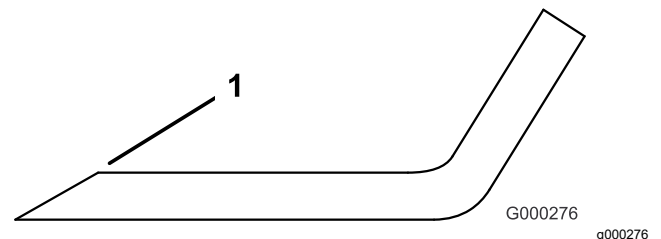

Figure 125
3. Examine the cutting edges of all of the blades and sharpen the cutting edges if they are dull or nicked (Figure 125).
Note: Sharpen only the top of the cutting edge and maintain the original cutting angle to ensure sharpness (Figure 125). The blade remains balanced if you remove the same amount of metal from both cutting edges.